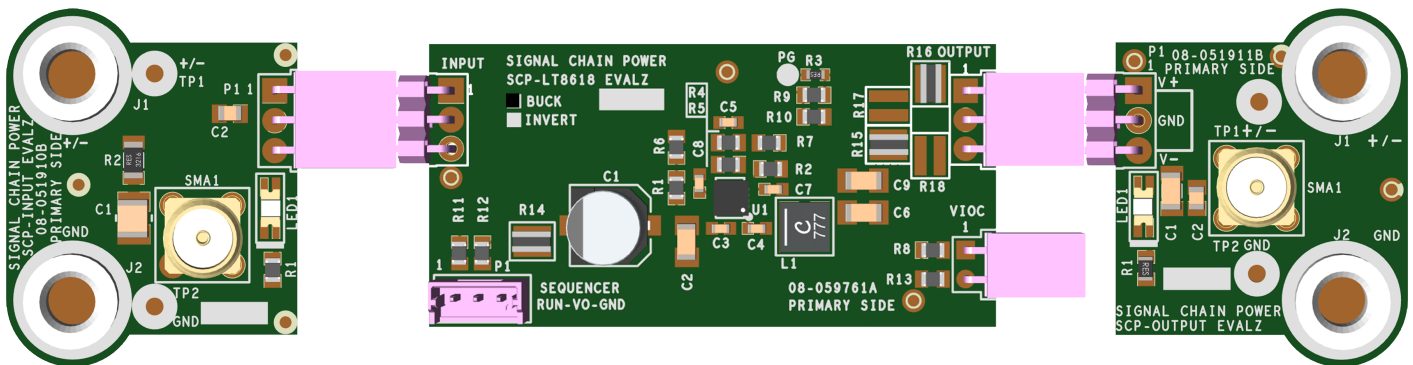

Figure 2. Proper Measurement Equipment Setup (Use SMA connectors for Measuring Input or Output Ripple)
2. Connect the SCP-INPUT-EVALZ and SCP-OUTPUT-EVALZ boards to the SCP-LT8618-BEVALZ (refer to Figure 2) and connect the input board to a voltage source,  $V_{SOURCE}$ . Connect the output board to a voltmeter or dynamic load. Slowly raise the input voltage until the SCP-LT8618-BEVALZ powers up into regulation and sweep  $V_{SOURCE}$  through the desired range of operation.